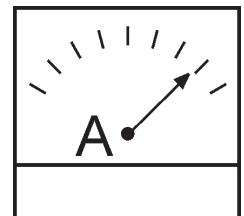

Figure 48. Ammeter (No Load)
- The ammeter (Figure 48) will indicate zero amps with no load applied. When a load is applied, the ammeter will indicate the amount of current that the load is drawing from the generator.